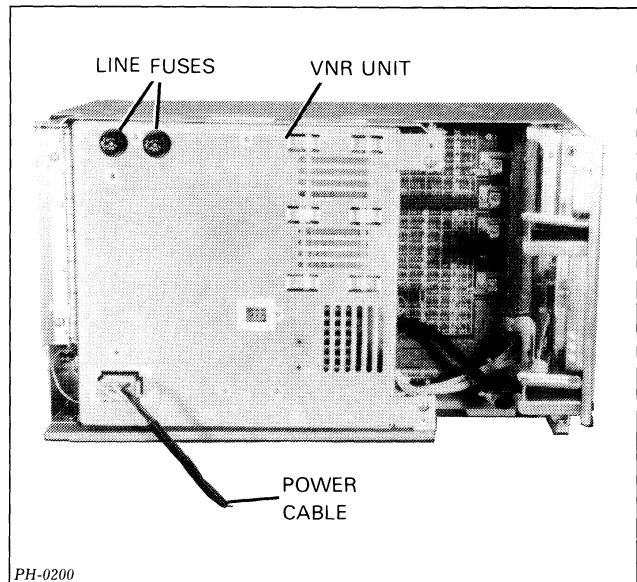

Figure 6.6 Line fuses
13. Check the two 15 Amp ac line fuses which screw into the upper left rear corner of the VNR unit (see Figure 6.6).